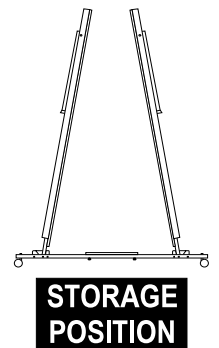

**Figure 4**
5. Lock all four center hinges. See Figure 4.